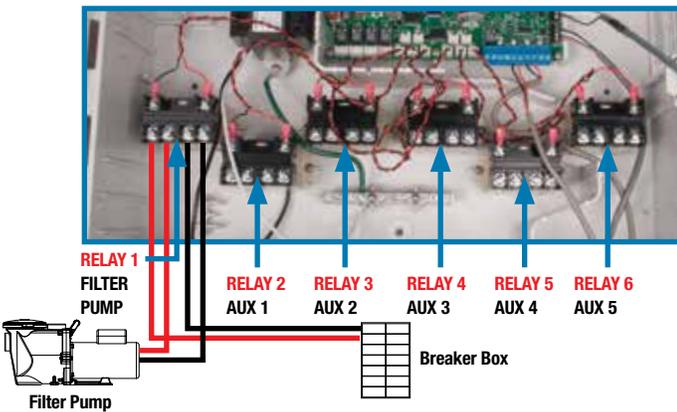

Figure 10. Relay Sequence & Plug-In
- Connect “Load” to Relay 1 Load 1 and Relay 1 Load 2 (see Figure 3). For wiring diagram refer to Figure 10)